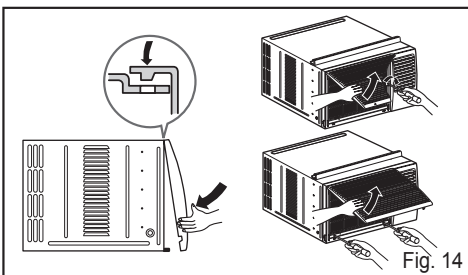

Fig. 14
8. Attach the front grille to the cabinet by inserting the tabs on the grille into the tabs on the front of the cabinet. Push the grille in until it snaps into place.(See Fig. 14)
9. Lift the inlet grille and secure it with a screw (Type A) through the front grille.(See Fig. 14)